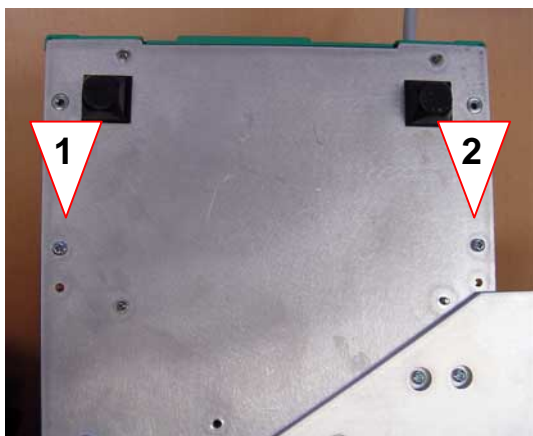

Fig. 4-6 Bottom mounting screws
15. Remove the two screws from the bottom of the AutoQC module (see Fig. 4-6, 1 and 2).